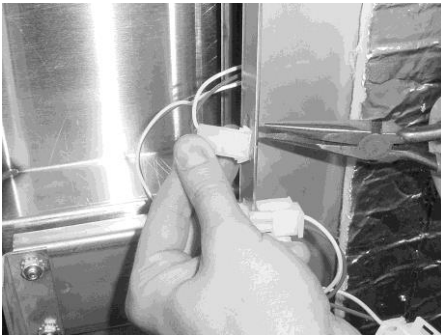

Figure 2-81
6. Remove female connector from plate. Figure 2-81.